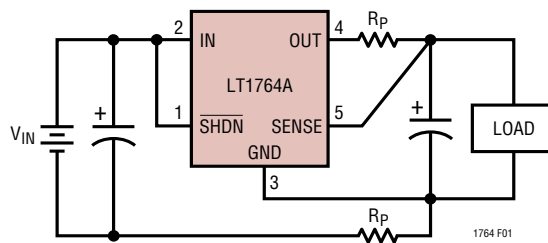

Figure 1. Kelvin Sense Connection
**SENSE (Pin 5/Pin 5/Pin 6):** Sense. For fixed voltage versions of the LT1764A (LT1764A-1.5/LT1764A-1.8/LT1764A-2.5/LT1764A-3.3), the SENSE pin is the input to the error amplifier. Optimum regulation will be obtained at the point where the SENSE pin is connected to the OUT pin of the regulator. In critical applications, small voltage drops are caused by the resistance ( $R_P$ ) of PC traces between the regulator and the load. These may be eliminated by connecting the SENSE pin to the output at the load as shown in Figure 1 (Kelvin Sense Connection). Note that the voltage drop across the external PC traces will add to the dropout voltage of the regulator. The SENSE pin bias current is  $600\mu\text{A}$  at the nominal rated output voltage. The SENSE pin can be pulled below ground (as in a dual supply system where the regulator load is returned to a negative supply) and still allow the device to start and operate.